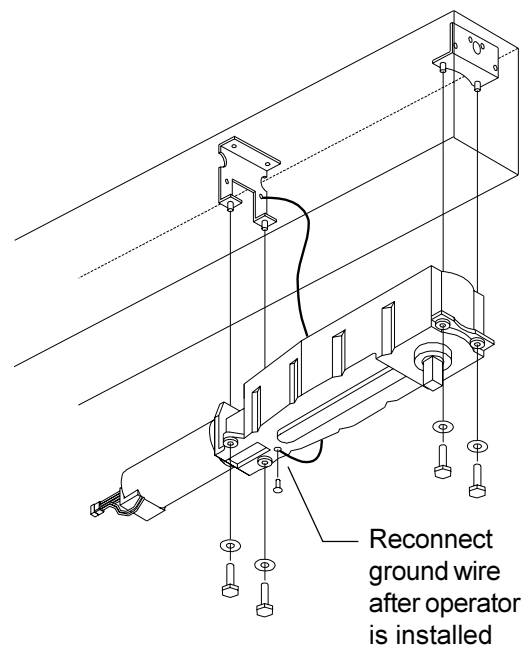

Figure 5-3
- 5.4. Line up the four mounting holes on the operator with the four mounting studs on the operator brackets (Figure 5-3). Make sure that the operator cable (with 6-pin connector) is hanging down freely and push the operator up onto the mounting studs. Make sure cables are not pinched when operator is installed. (The mounting studs fit snugly into the grommets, and firm pressure may be required to get the operator into position.)
- 5.5. Secure the operator to the header using four 5/16-18 hex head screws and washers (Figure 5-3). Tighten the screws until they make contact with the mounting studs on the operator brackets.
- 5.6. Reconnect to the operator the green ground wire that was disconnected from the operator in step 5.2 (Figure 5-3).